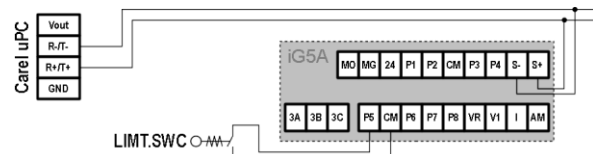

Figure 3
- Wire the communication terminal of the iG5A inverter according to the **Figure 3**